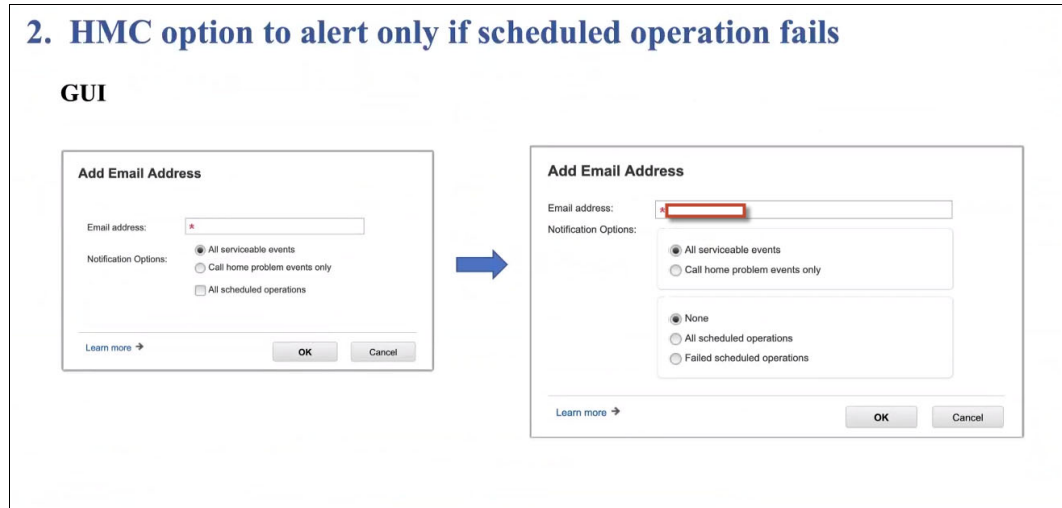

Figure 1-17 HMC alert feature
- ▶ Scheduled operation function: In the Electronic Service Agent, a new feature that allows customers to receive message alerts only if scheduled operations fail (see Figure 1-17).